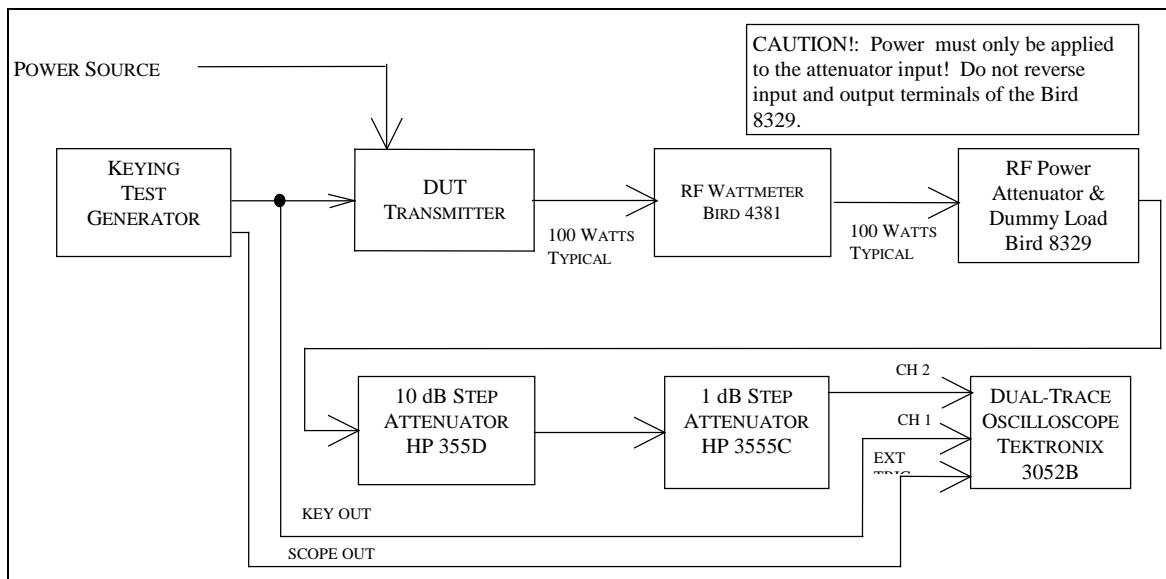

Fig. 4-7 — CW Keying Waveform Test Hook-up
4.7.2 Test hook-up (See Fig. 4-7)